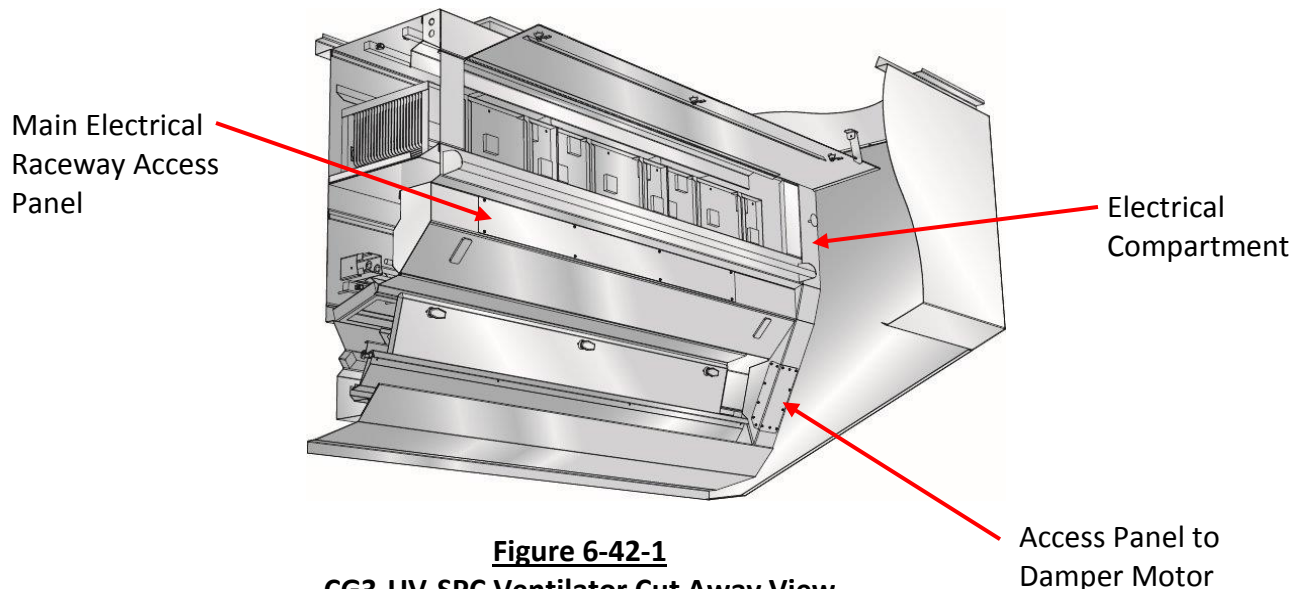

Figure 6-42-1
Model CG3-UVi-SPC Ventilators include a three position damper referred to as Baffle #1 in the Principle of Operation section of this manual (Refer to Figure 2-3-1, 2-6-1 and 2-8-1. The damper is driven by an 24 volt AC/DC Electric Damper Motor located behind an access panel at one end of the Ventilator (Refer to Figure 6-42-1 and 6-42-2). The damper motor is called a “motor drive, spring return” type motor and the mode of operation of the motor to the damper positions is as follows:
2. Remove the Damper Motor Access Panel (Refer to Figure 6-42-1).